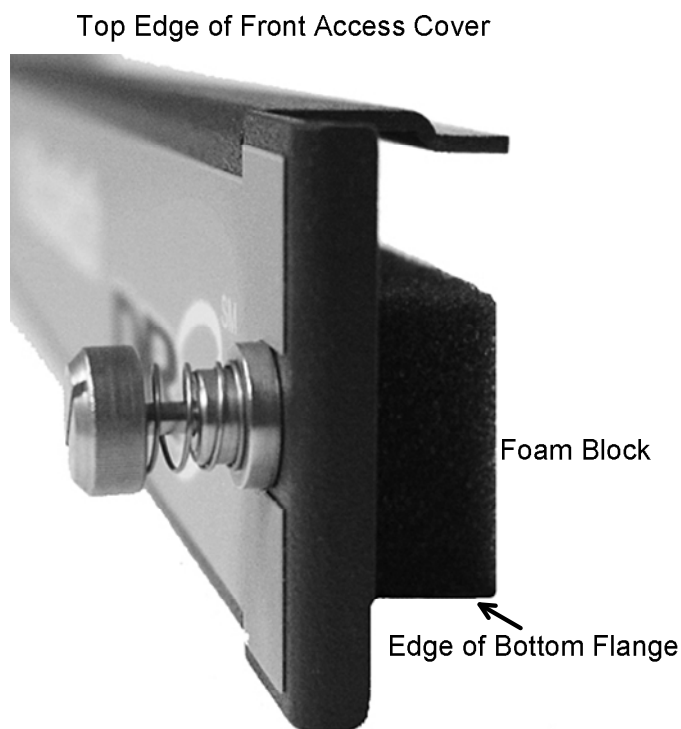

Figure 3-4 Side View of Installed Stabilizer Block
11. When viewed from the side, the installed foam block should be oriented as shown in Figure 3-4.